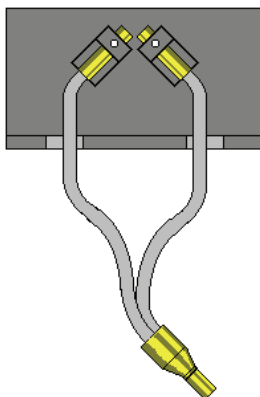

Figure 53 Inserting the fibre end
3. Loosen the two knurled screws underneath the accessory, as shown in Figure 53.